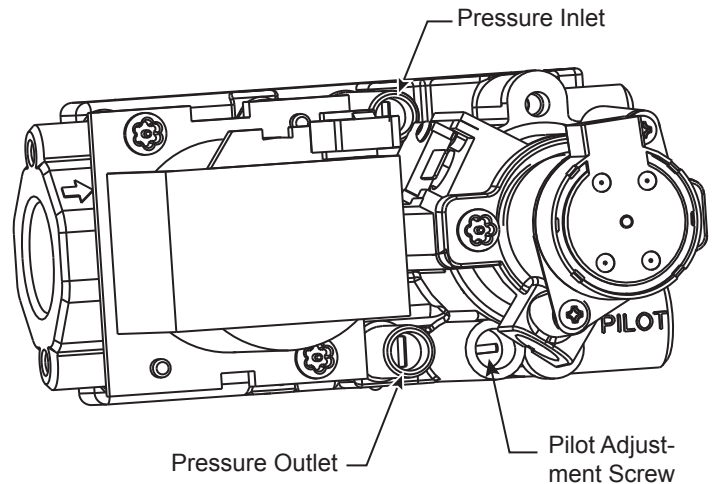

**Figure 52 -
4. To check gas pressures at valve, turn captured screw counter clockwise 2 or 3 turns and then place tubing to pressure gauge over test point. Turn unit to high. *Figure 52.* After taking pressure reading, be sure and turn captured screw clockwise firmly to reseal. Do not over torque. Check test points for gas leaks.